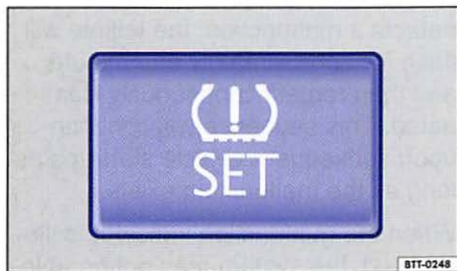

Fig. 120 In the glove compartment: SET button for the Tire Pressure Monitoring System.
The SET button for the Tire Pressure Monitoring System is in the glove compartment ⇒ fig. 120. The SET button resets the benchmark tire pressure used by the TPMS to the current tire pressure in the tires based on the circumference of the tires. To reset the TPMS, switch on the ignition and then press and hold the SET button until you hear a confirmation chime. The chime usually sounds after a couple of seconds. The SET button must be pressed for at least 2 seconds but no more than 30 seconds each time the tire pressure in one or more tires has been adjusted or after one or more tires has been changed, exchanged, or repaired. The new tire pressures are stored in the system only after at least 20 minutes of normal driving.
- i** After a low tire pressure warning, the vehicle must stand and must not be driven for at least one minute before the SET button ⇒ fig. 120 can be used to store a new benchmark tire pressure.